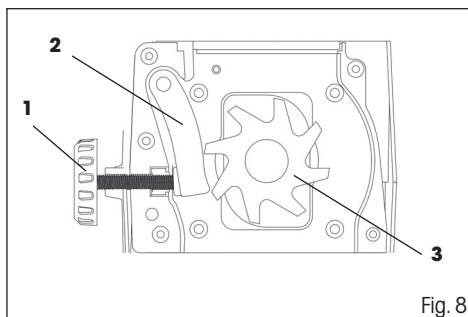

Fig. 8
- ✿ For effective operation, it is necessary to set the distance between the counter-blade (Fig. 8, point 2) and the cutting roller (Fig. 8, point 3). The gap between the cutting roller and the counter-blade should be as small as possible.
- ✿ To pull the counter-blade towards the cutting roller, slowly turn the setting screw (Fig. 8, point 1) clockwise. Keep turning the screw until fine aluminium fillings start falling out of the ejection chute.